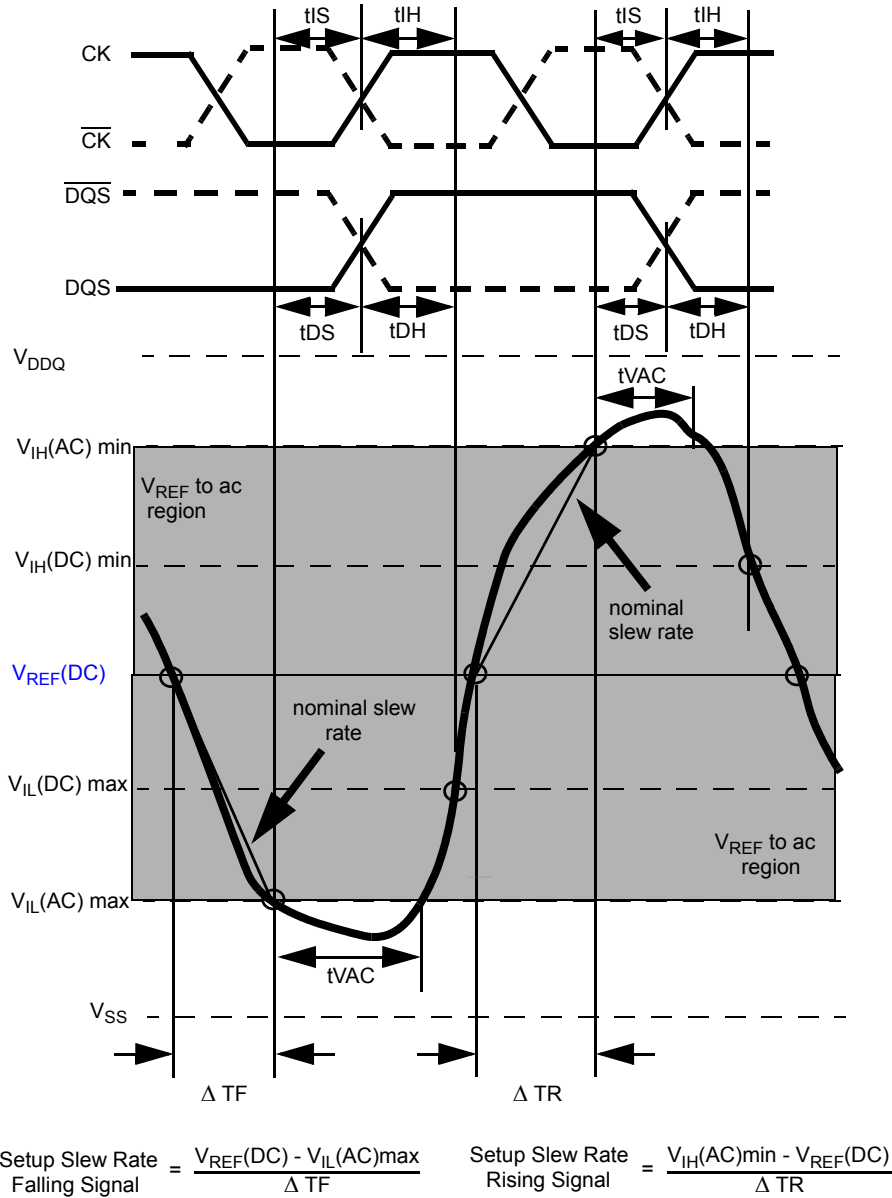
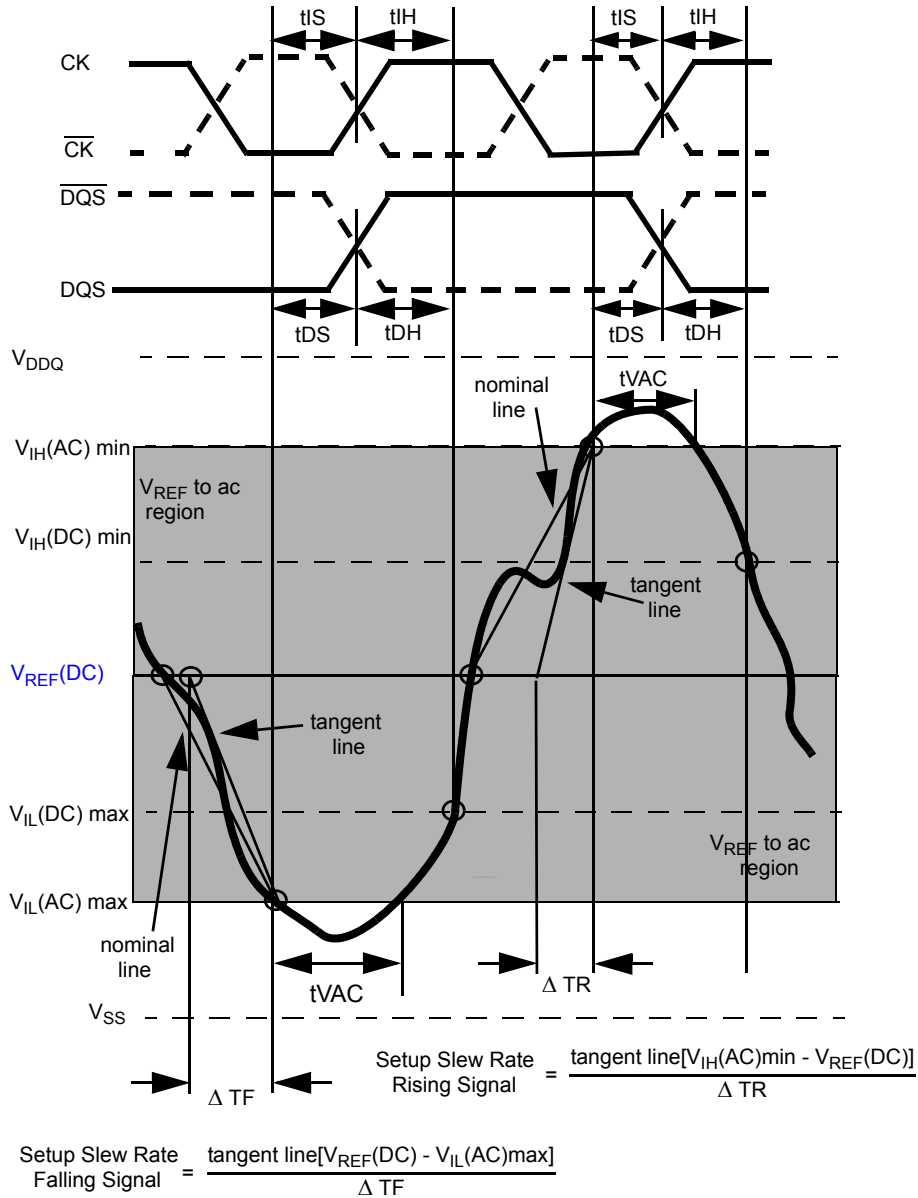

Figure 21. Illustration of nominal slew rate and t_{VAC} for setup time t_{DS} (for DQ with respect to strobe) and t_{IS} (for ADD/CMD with respect to clock).
Figure 23. Illustration of tangent line for setup time t_{DS} (for DQ with respect to strobe) and t_{DS} (for ADD/CMD with respect to clock)
Example: tIS (total setup time) = tIS(base) + ΔtIS Setup (tIS) nominal slew rate for a rising signal is defined as the slew rate between the last crossing of V_{REF}(DC) and the first crossing of V_{IH}(AC)min. Setup (tIS) nominal slew rate for a falling signal is defined as the slew rate between the last crossing of V_{REF}(DC) and the first crossing of V_{IL}(AC)max. If the actual signal is always earlier than the nominal slew rate line between shaded 'V_{REF}(DC) to ac region', use nominal slew rate for derating value (see Figure 21). If the actual signal is later than the nominal slew rate line anywhere between shaded 'V_{REF}(DC) to ac region', the slew rate of a tangent line to the actual signal from the ac level to dc level is used for derating value (see Figure 23).